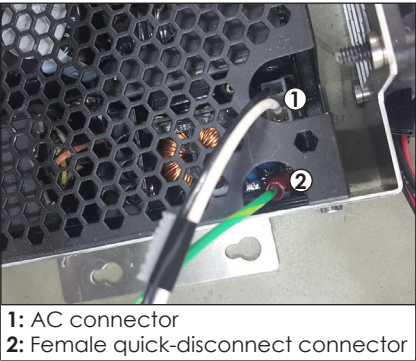

Figure 54: Disconnect AC Connector & Female Quick-Disconnect Connector
3. Pull the cables gently and rock the AC connector back and forth to disconnect the connector from the power supply. Refer to **Figure 54**.
4. Disconnect the female quick-disconnect connector from the power supply. Refer to **Figure 54**.